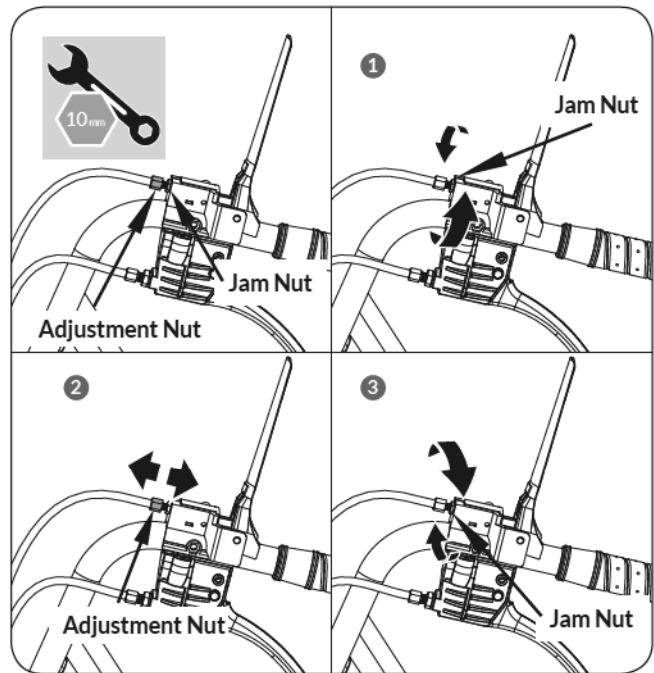

Figure 9
1. Loosen the jam nut by turning it counter clockwise with 10mm wrench. (see **Figure 9, Illustration 1**)
2. Tighten or loosen the cable by turning the cable adjustment nut clockwise or counter clockwise with 10mm wrench until you have reached your required tightness. (See **Figure 9, Illustration 2**)
3. Once tightness is set, return the jam nut against the handle to hold the cable in place. (See **Figure 9, Illustration 3**)